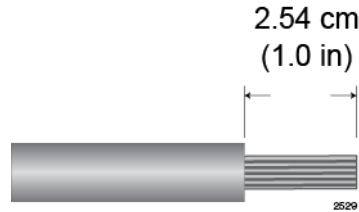

Figure 127. Stripping the solid or Stranded Grounding Wire
1. Prepare an adequate length of solid or stranded 10 AWG grounding wire by stripping it as shown in Figure 127.